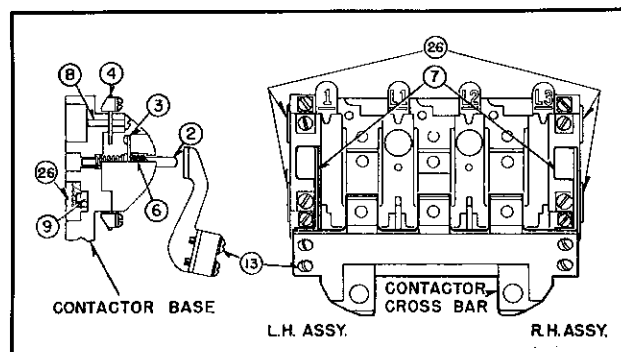
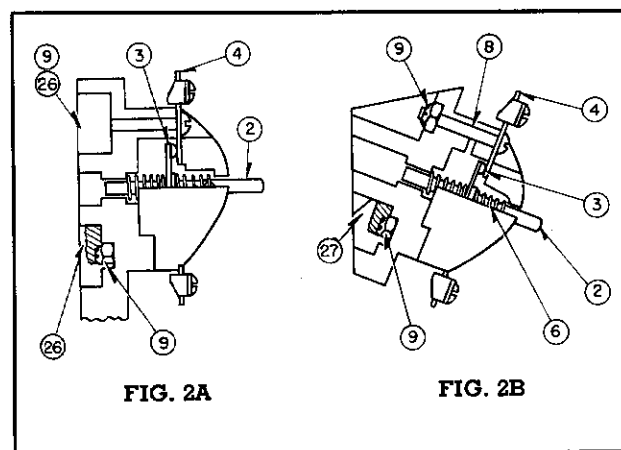
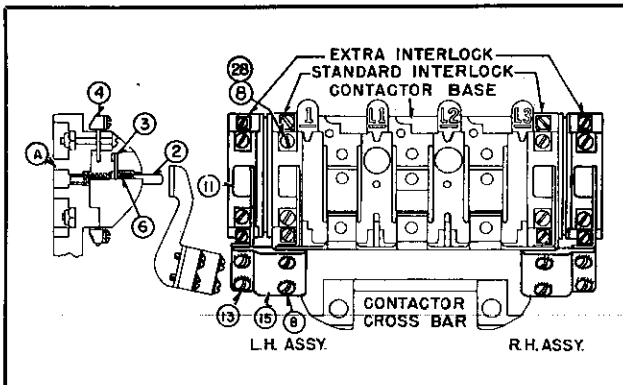
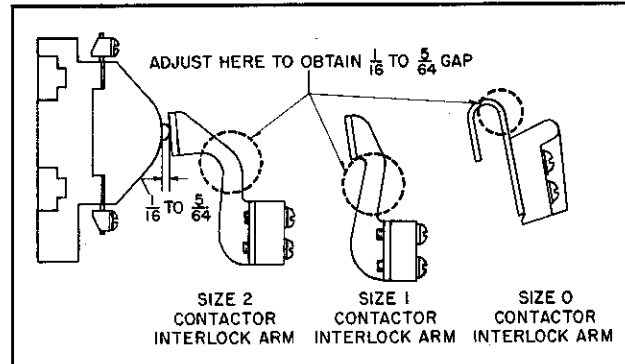

FIG. 1. Standard Normally Open (Make) Interlock
FIG. 2. Standard Normally Closed (Break) Interlock
FIG. 3. Extra Normally Open (Make) Interlock
FIG. 4. Operating Arm Adjustment (Energized Position)
TYPES L50, L51, AND L52 INTERLOCKS are designed for use on the Type N Size 0, 1, and 2 contactors and starters respectively. Each complete interlock consists of two basic parts; (1) the *inter-changeable* interlock unit without operating arm and (2) the operating arm which is *different* with each contactor size (See Fig. 4).
Standard contactors and starters come equipped with a *standard* normally open interlock mounted on the left hand side. If a *second* interlock is desired, use an additional *standard* interlock on the right side of the contactor or starter (See Fig. 1, R.H. Assy.). The *extra* interlock is designed to meet the requirement of a *third or fourth* interlock as shown in Fig. 3.
Fig. 1 shows the 1st and 2nd interlocks assembled, using elastic stop nut item (9) and rubber nut retainers (26) placed in the slot on all contactors and linestarters assembled at the factory. Fig. 1 illustrates the use of nut (9) and retainer (26) as used on the Size 1 and 2, two and three pole units.
by reassembling parts (3), (4) and (6) in Fig. 1 as shown in Fig. 2. (To detach the smaller spring (6) from plunger (2) compress inturned end of spring against moving contact (3) and rotate spring). Replace springs in original positions, after reversing the movable contact bar, (and moving it to the other side of the plunger shoulder) and be sure the end of spring (6) is returned to the hole from which it was removed.
2. Insert into base slot the respective rubber nut retainer items (26) or (27) complete with elastic stop nut (9).
3. Mount interlock unit (without operating arm) on the contactor base as shown in Fig. 1. Interlock mounting screws need not be tightened excessively, as Elastic Stop Nuts provide positive locking.
4. Attach operating arm (11) to contactor cross bar with screws (13) supplied with the interlock.
5. With contactor closed check $\frac{1}{16}$ in. to $\frac{5}{64}$ in. gap shown in Fig. 4. If adjustment is necessary adjust operating arm *only* in area indicated in Fig. 4.
2. Slip Moldarta sub-base (A), on which interlock unit is mounted into slots provided in contactor base and secure with screws (8) & lock washers (28) as shown in Fig. 3.
3. Remove screw assembly (13), Fig. 1, and mount operating arm supplied with interlock to Moldarta cross bar extension (15), Fig. 3.
4. Attach cross bar extension (15) to the contactor cross bar with screws (8) and lockwashers (28) furnished with the interlock as shown in Fig. 3.
5. With contactor closed check $\frac{1}{16}$ in. to $\frac{5}{64}$ in. gap shown in Fig. 4. If adjustment is necessary adjust extra interlock operating arm *only* in area indicated in Fig. 4.